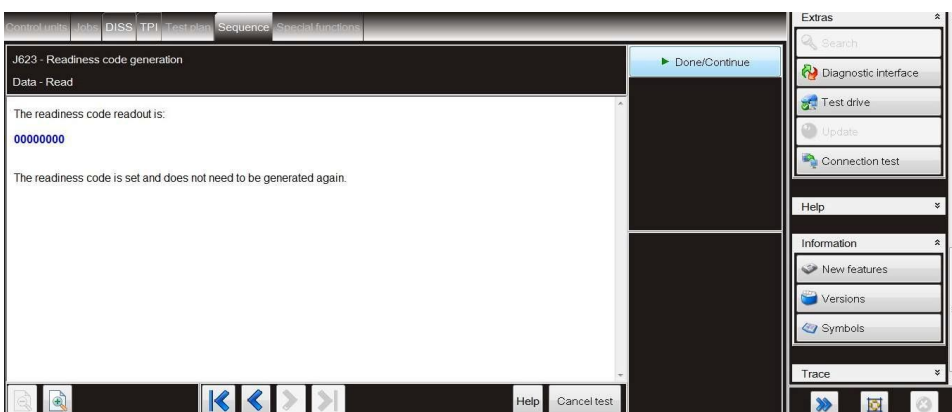

Figure 9
- Carry out the Readiness code test until complete as shown in Figure 9